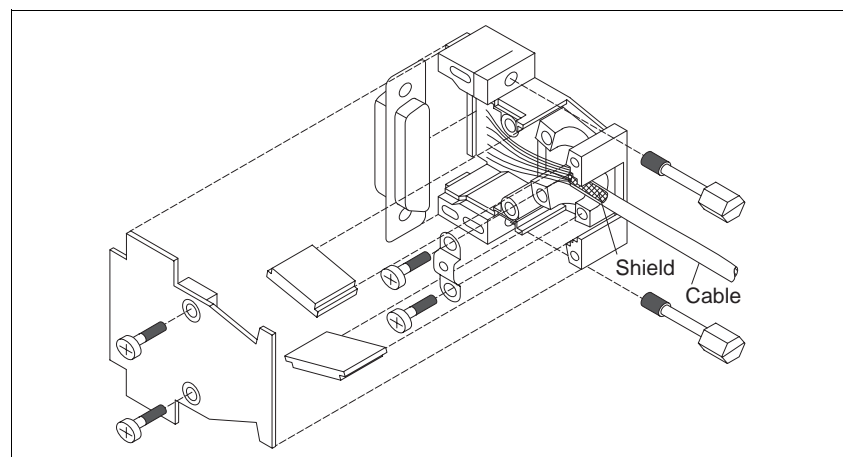

Fig. 2-21 Interface connector assembly
3. Insert two hexagon head bolts (fig. 2-21) into the connector shell.
8. Fasten the connector to the front panel (item 53) with screws.